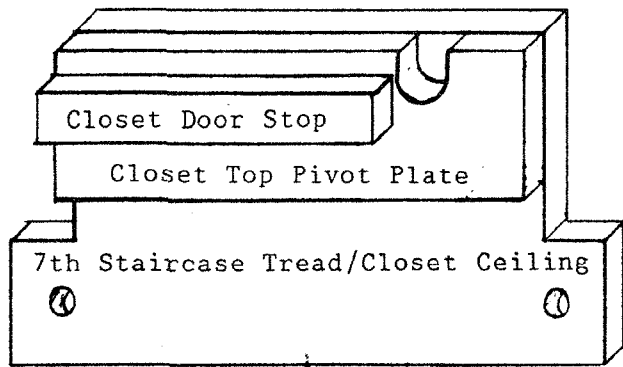

Figure 24
2. Assemble 7th staircase tread, closet top pivot plate, and door stop as in Figure 24. The good sides are facing away.